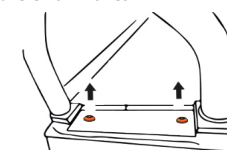

Figure G1
• Remove the plastic clips which cover the bolts. Once the remove the plastic clip, undo the bolts by using 6mm hex key. **Refer Figure G1**